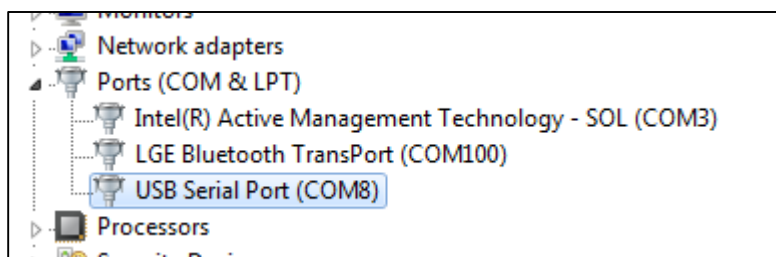

Figure 2: Device manager
2. Locate the COM port in Windows Device Manager. The COM port number varies for different computers (Figure 2).